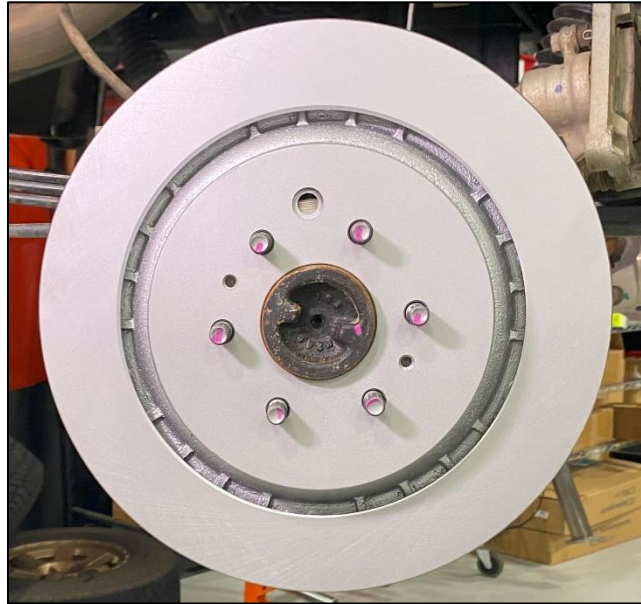

Figure 9
13. Install a new Brake Rotor onto the Wheel Hub. They are not directional. Using a lug nut or two on the Wheel Studs can hold to rotor in place until the new Caliper is on. Wipe down the rotor surface with Brake Cleaner to remove protective oils on the rotor. *Figure 9.*